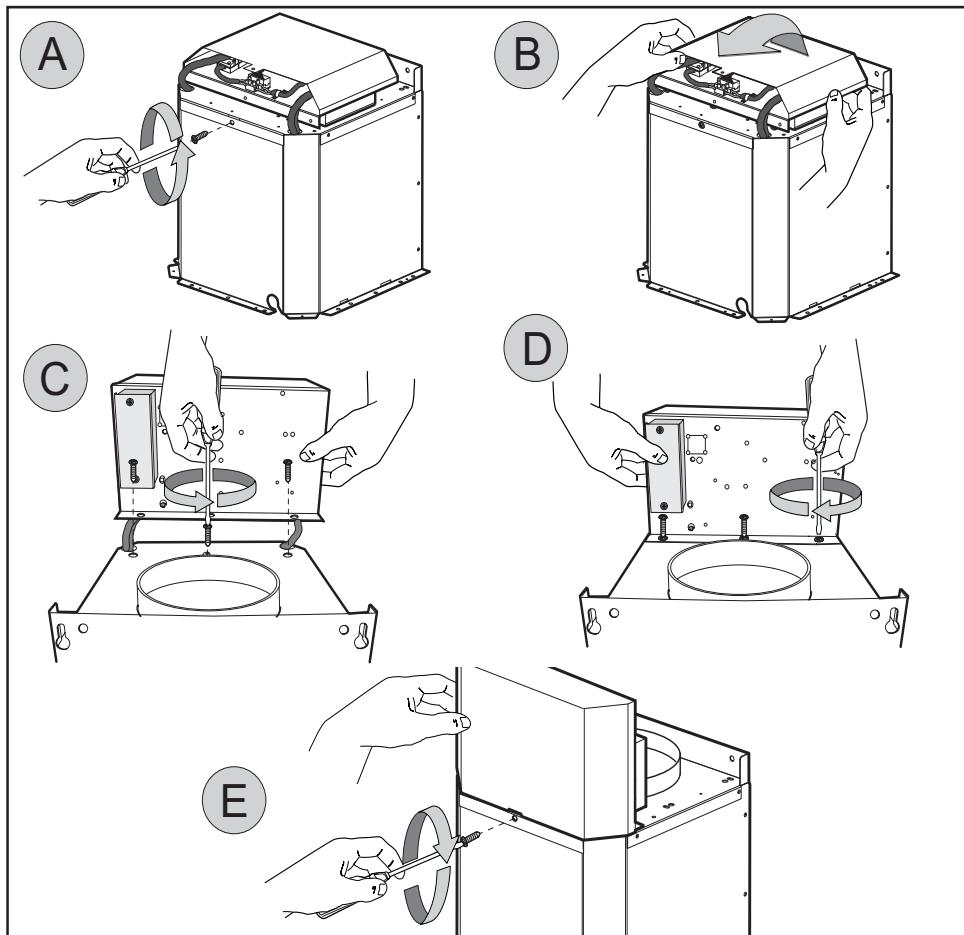

Fig.1
- The appliance has been designed for use in the ducting version (air exhaust to the outside – Fig.1).
- **WARNING - TO REDUCE THE RISK OF FIRE, ELECTRIC SHOCK, OR INJURY TO PERSONS, OBSERVE THE FOLLOWING:** Before making electrical connections to power supply, the electrical box must be secured in place as indicated in fig.1
Before installing the appliance fix the electrical box as indicated in fig.1